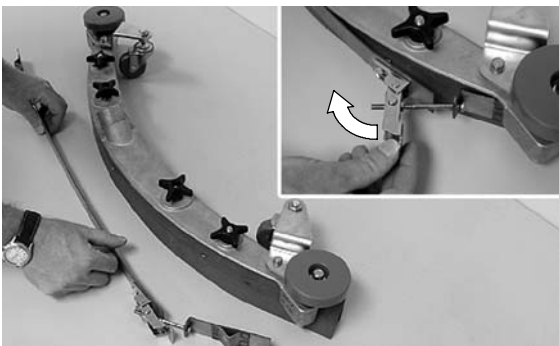

FIG. 60
2. Loosen the band clamp and remove the band from the squeegee assembly (Figure 60).